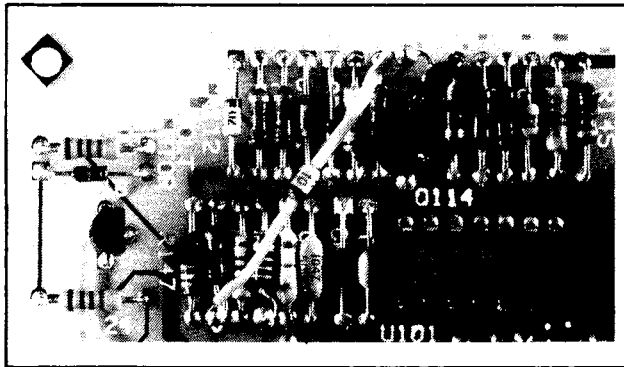

Figure 2-4. A3CR123 Installation
Read the entire set of instructions and review Figure 2-4, "A3CR123 Installation" before beginning. Review the general safety consideration and the static sensitivity topics in Section VIII of the Service Manual.
K. Wrap the lead from the cathode (the end with the stripe of A3CR123) to the A3R146 tie point. This lead should make one full turn around the tie point to insure good mechanical contact, the lead should have a slight bend to relieve stress and the end of the flexible tubing should end $<.1$ inch from the tie point. See Figure 2-4, "A3CR123 installation".
from the tie point. See Figure 2-4, "A3CR123 Installation."